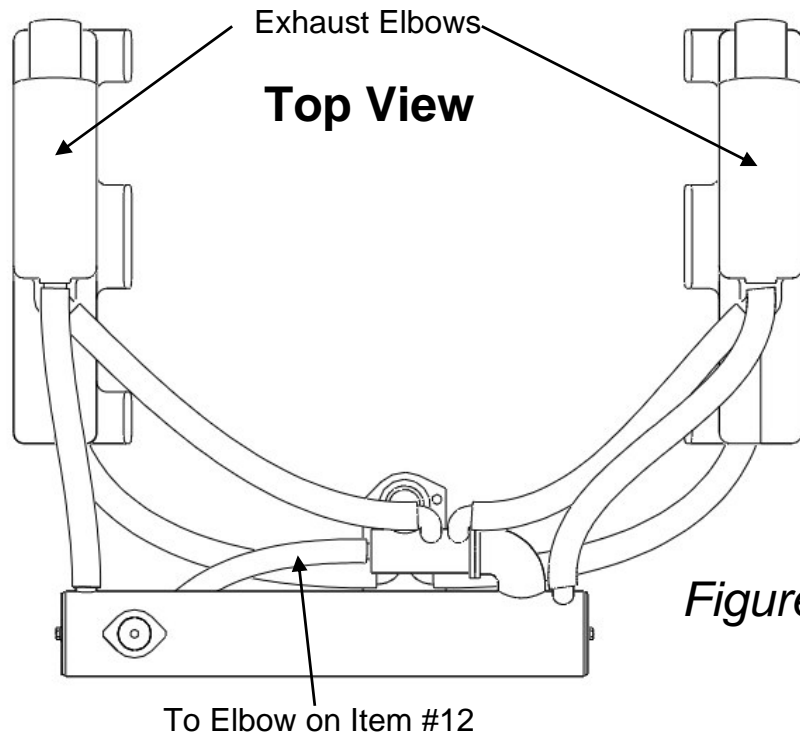

Figure 4
15. Tighten clamp, (Item #16), around upper end of 1-1/2" hose, (Item #20) at thermostat housing of heat exchanger. See Fig. 4 for fresh water hose routing.